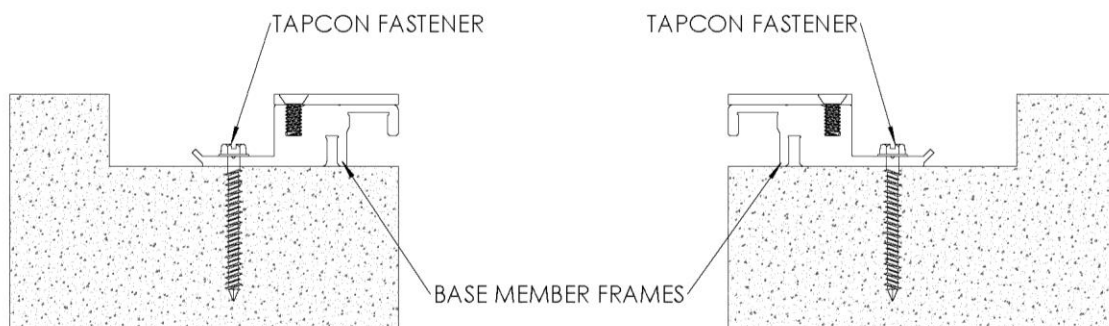

FIGURE 1
1. Pour floors with blockouts as shown on **Figure 1**. Blockout should be a minimum of 2” wider than the exposed cover width by the specified depth.
1. Position base member frames in blockout per shop drawings. Using the frame as a template, mark and drill 5/32” holes for Tapcon fasteners. Install base member frames to the blockout opening with fasteners, making sure not to over tighten. **See Figure 1**